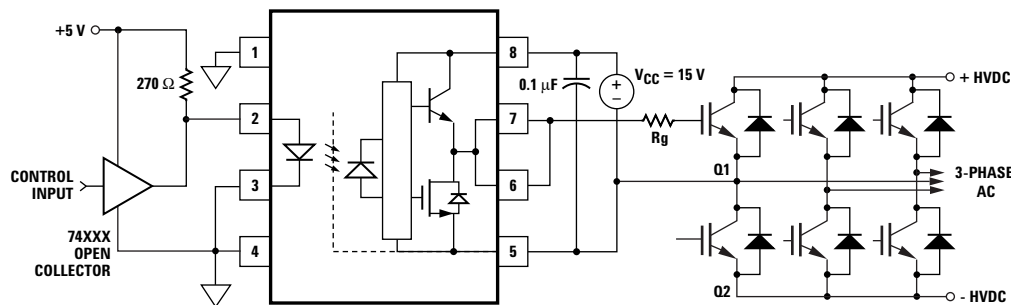

Figure 25. Recommended LED drive and application circuit for HCPL-3180.
negative IGBT gate drive in many applications as shown in Figure 25. Care should be taken with such a PC board design to avoid routing the IGBT collector or emitter traces close to the HCPL-3180 input as this can result in unwanted coupling of transient signals into the input of HCPL-3180 and degrade performance.
Step 1: Calculate R_g minimum from the I_{OL} peak specification. The IGBT and R_g in Figure 25 can be analyzed as a simple RC circuit with a voltage supplied by the HCPL-3180.
For the circuit in Figure 25 with I_F (worst case) = 16 mA, $R_g = 10 \Omega$, Max Duty Cycle = 80%, $Q_g = 100 \text{ nC}$, $f = 200 \text{ kHz}$ and $T_{AMAX} = +75^\circ\text{C}$:
Without a detector shield, the dominant cause of optocoupler CMR failure is capacitive coupling from the input side of the optocoupler, through the package, to the detector IC as shown in Figure 28. The HCPL-3180 improves CMR performance by using a detector IC with an optically transparent Faraday shield, which diverts the capacitively coupled current away from the sensitive IC circuitry. However, this shield does not eliminate the capacitive coupling between the LED and optocoupler pins 5-8 as shown in Figure 29. This capacitive coupling causes perturbations in the LED current during common mode transients and becomes the major source of CMR failures for a shielded optocoupler. The main design objective of a high CMR LED drive circuit becomes keeping the LED in the proper state (on or off) during common mode transients. For example, the recommended application circuit (Figure 25), can achieve 10 kV/ μ s CMR while minimizing component complexity.